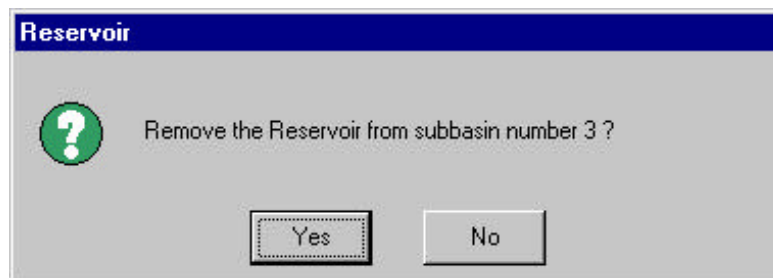

Figure 5.59
3. A prompt box will be displayed asking for verification of the reservoir(s) removal (Figure 5.59).